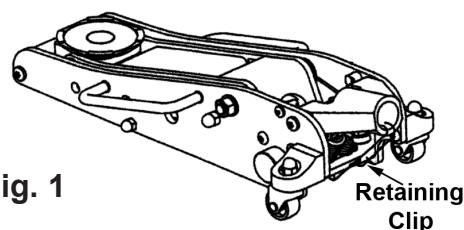

Fig. 1
3.1.2 For initial assembly refer to Fig. 1.